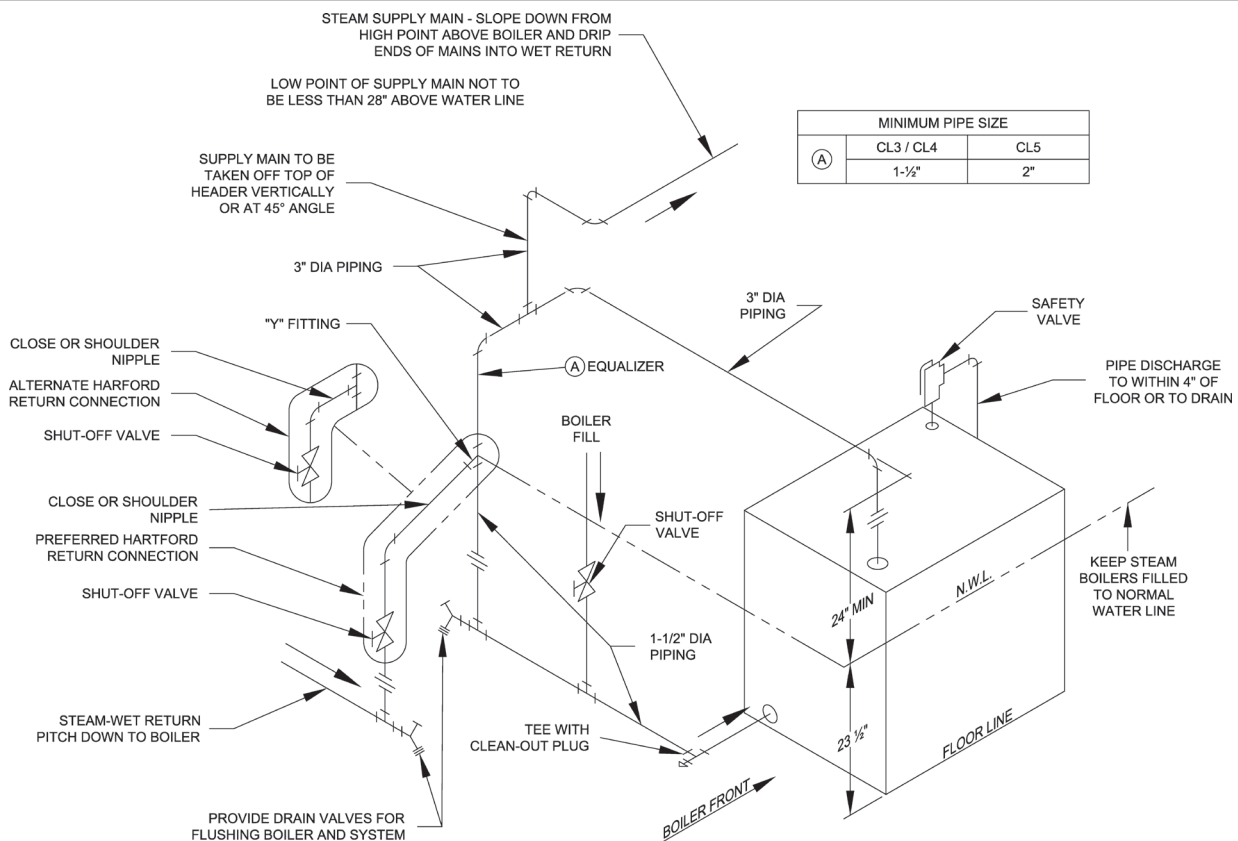

Figure 12: Recommended Boiler Piping For Gravity Return Steam Boiler
1. Thread 3/4" MPT safety valve and 3/4" NPT coupling onto factory installed 3/4" NPT x 7/4" nipple located in left rear corner on top of boiler as shown in Figure 1C. Tighten with wrench. Pipe discharge as shown in Figure 12. Installation of the relief valve must be consistent with ANSI/ASME Boiler and Pressure Vessel Code, Section IV.
2. Install 3/4" drain valve in wet return piping as shown in Figure 12.
- a. For Recommended STEAM BOILER PIPING refer to Figure 12. Also, consult I=B=R Installation and Piping Guides.